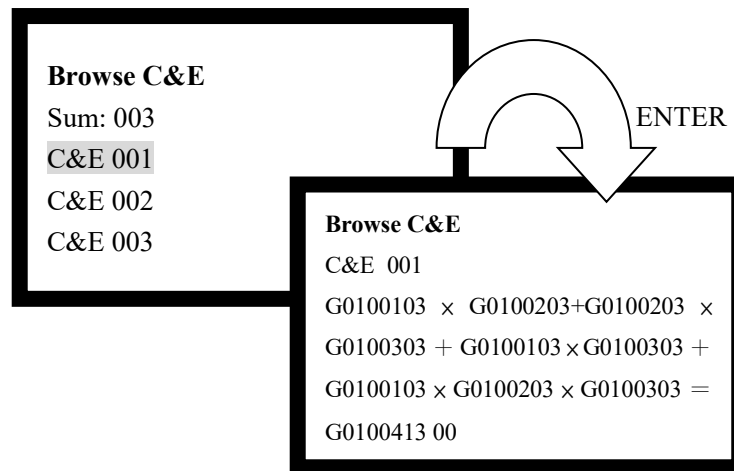

Fig. 6-9
- ✧ Entering No. 7 to choose “7: Browsing C&E” will enter the screen for browsing C&E equation, as shown in Fig. 6-9.